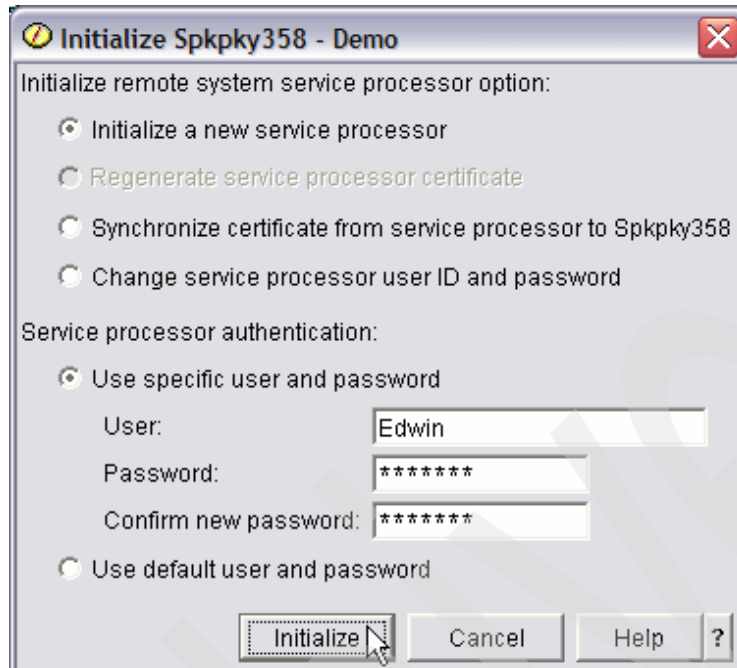

Figure 6-24 Initialize option on Initialize window
3. The Initialize window opens (Figure 6-24 on page 173), select **Initialize a new processor**.